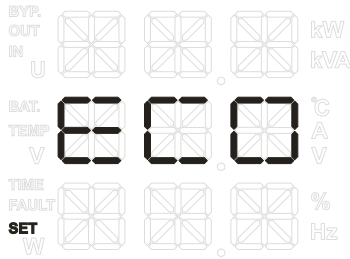

Figure4-5 ECO mode
ECO prior setting page: when the UPS has been set to inverter prior mode and it needs to set to ECO prior mode, enter this setting page, the **ECO** flickers. If you confirm to select the setting, press **①** (ON) button more than 1s, exit the setting page, the setting succeeds. If you do not confirm to select the setting, 20s later, it will exit the setting page automatically. Corresponding LCD display is as shown in Figure4-5.